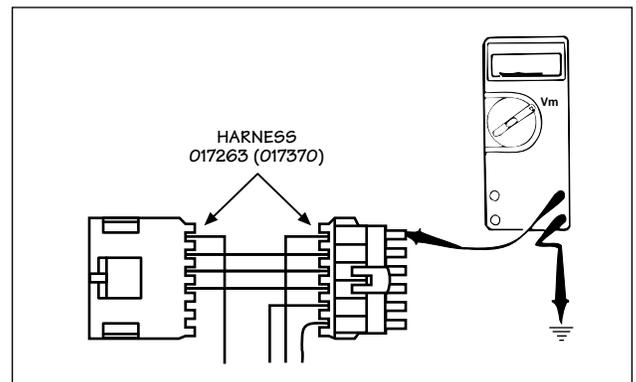

FIG. 5
- b. Jacobs Switch Group: Disconnect P/N 017263 (017370) harness from Jacobs control module. Measure the voltage at the RED wire. The voltmeter should read +12 VDC when the main power supply is ON and 0 VDC with main power supply OFF (Fig. 5). If these conditions are not present, check power supply and connections.